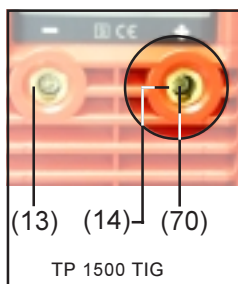
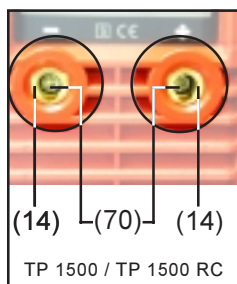

Fig. 13
Fig. 14
- Working from the outside, insert welding sockets (13) and (14) into the front of the housing (Fig.13 and Fig.14)
- **TP 1500 TIG:** Screw the $\oplus$ socket to the appropriate copper bracket in the inside of the housing, using the M5x12 - TX20 screw (70)
- Tighten the M5x12 - TX20 screw (70) with a torque of 2 Nm, holding the copper bracket firmly as you do so
- **TP 1500 / 1500 RC:** Screw the $\oplus$ socket and the $\ominus$ socket to the appropriate copper brackets in the inside of the housing, using M5x12 - TX20 screws (70)
- Tighten the M5x12 - TX20 screws (70) with a torque of 2 Nm, holding the copper brackets firmly as you do so